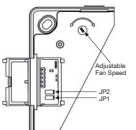

Fig 7
2. To REDUCE the speed, use a small screwdriver to turn the adjuster (Fig 7) ANTI-CLOCKWISE.
3. To INCREASE the speed, use a small screwdriver to turn the adjuster (Fig 7) CLOCKWISE.
When comfort mode is switched ON, the humidity control option is disabled and the fan will not run during a shower/bath event until after comfort mode is switched OFF. The fan will then start, and run, at the preset top speed, for the same duration that the humidity control option was disabled, to clear any residual humidity. If, however, comfort mode has not been switched OFF after 20 minutes, the fan will automatically start, and run, at the preset top speed for 20 minutes before switching itself OFF. The jumper JP1 run-on timer (Fig 7) can be set to allow the fan to continue running, at the preset top speed, for a further 15 minutes if required.
For the fan switch option to be enabled, jumper JP2 (Fig 7) must be removed. Switched ON, the fan will run at the preset top speed. When switched OFF, the jumper JP1 run-on timer (Fig 7) can be set to allow the fan to continue running, at the preset top speed, for a further 15 minutes.